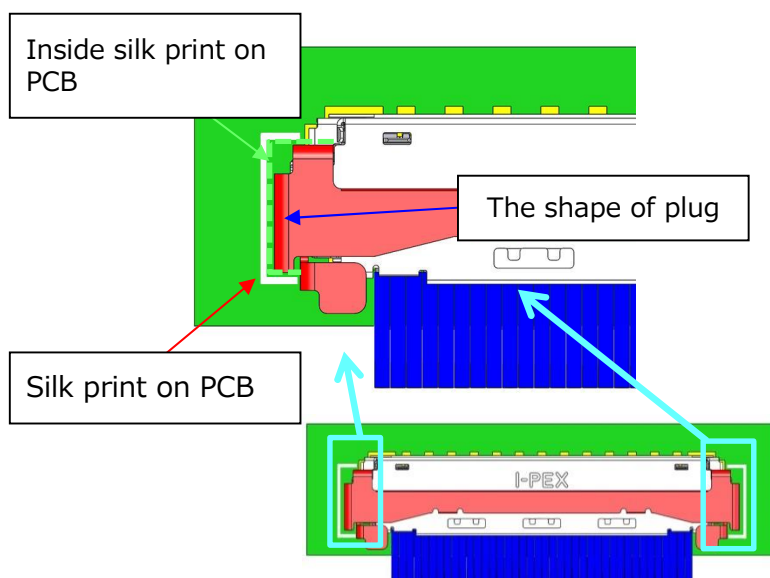

Fig.4 With Lock cover
•As shown in Fig.4 and 5, Please set it so that both ends of PLUG are located within the "[]" of silk print on PCB.